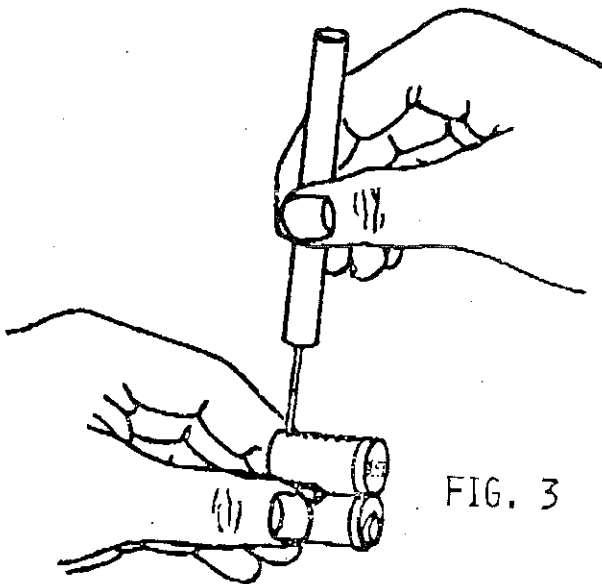

FIG. 3
3. Insert ejector pin in barrel #1 at rear end of core. (See figure 3.) Now all barrels of core should be aligned to receive pin segments.